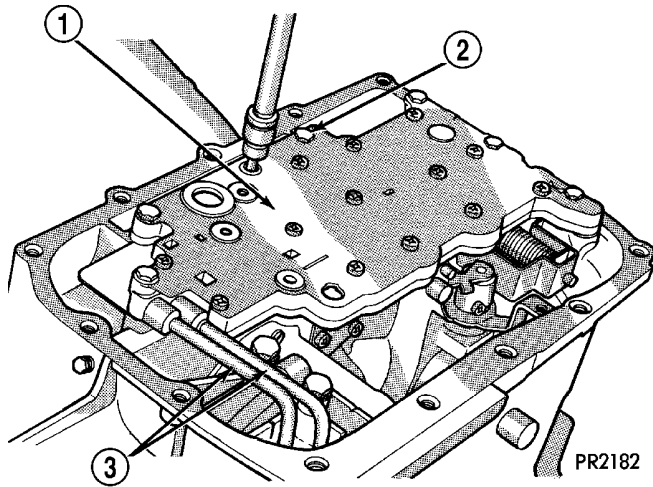

Fig. 76 Valve Body Attaching Bolts
(37) Install and torque valve body-to-transaxle case bolts (Fig. 76) to 12 N·m (105 in. lbs.) torque.